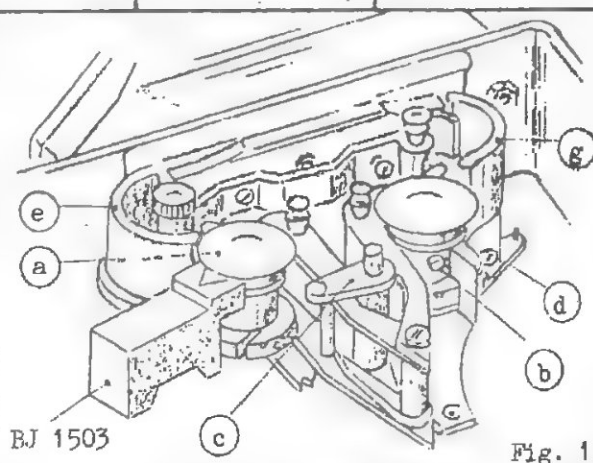

Fig. 1
1.1 Sprockets (fig. 1)
1.2 Loop formers (fig. 1)